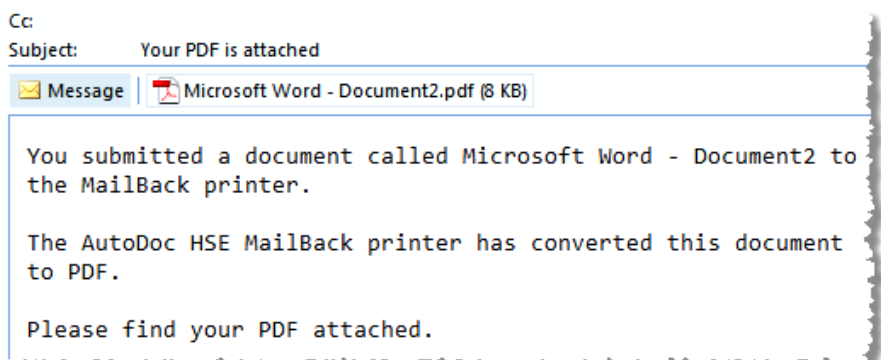

FIGURE 26 – showing areas of the e-mail tab that have been configured especially for a mailback situation.
3. If desired, you could configure form 23 with appropriate information for a mailback function. It is important that the e-mail should be sent under the CREATOR/OWNER option, to ensure the e-mail address of the creator is used in the %emailaddress% indicator (see Figure 26 on page 156).